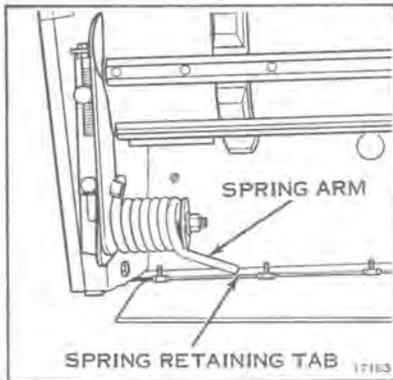

Figure 11-9
5. Assemble trucks, front and rear axle assemblies and idler assembly inside truck and install to snowmobile chassis. The rear spring is loose when installing front and rear axles to bearing cups. Before adjusting track tension, place spring arms inside spring tabs. See Figure 11-9.